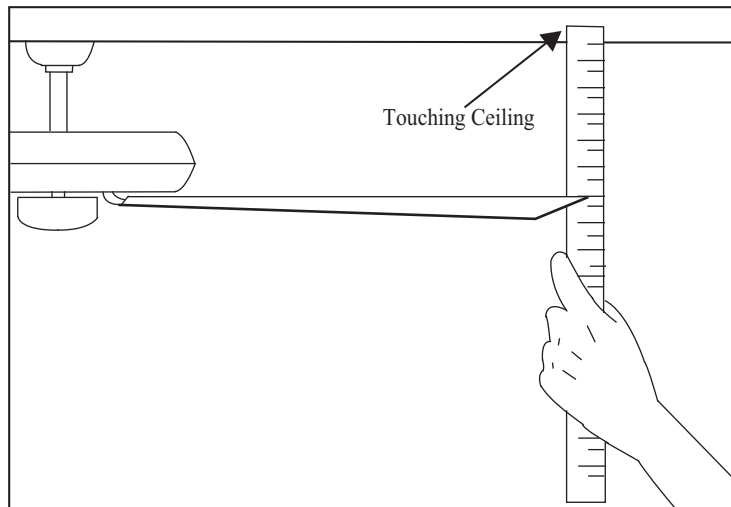

Figure 19
2. Most fan wobble problems are caused when blade levels are unequal. Check this level by selecting a point on the ceiling above the tip of one of the blades. Measure from a point on the center of each blade to the point on the ceiling. Measure this distance as shown in Figure 19. Rotate the fan until the next blade is positioned for measurement. Repeat for each blade. Measurements deviation should be within $1/8"$. Run the fan for 10 Minutes.